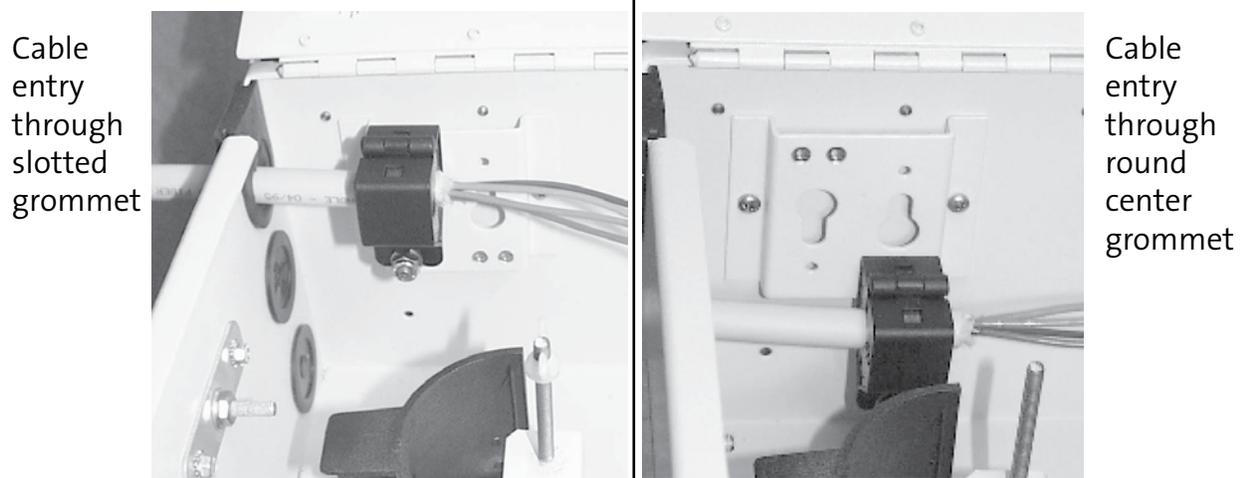

Figure 10
Step 4: Once the cable is installed, reattach the bracket to the telco compartment inside the housing (Figure 10).
IMPORTANT: The location of the UCC will depend on the entry port used by the cable. Verify locations before you secure the clamshell cover/base assembly to the bracket. When cable entry is through the center round grommet, attach the UCC as shown in Figure 10.